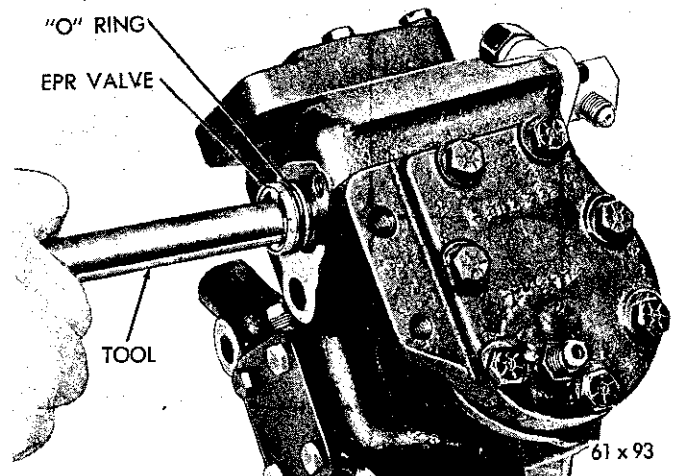

Fig. 36—Removing the EPR Valve
- (1) Remove the two "EPR" Valve suction line fitting bolts, the fitting which also contains the compressor suction screen, spring, and the gasket.
- (2) Remove the "EPR" Valve and "O" ring from the compressor using Tool C-3822, by rotating the valve counterclockwise slightly, as shown in Figure 36.